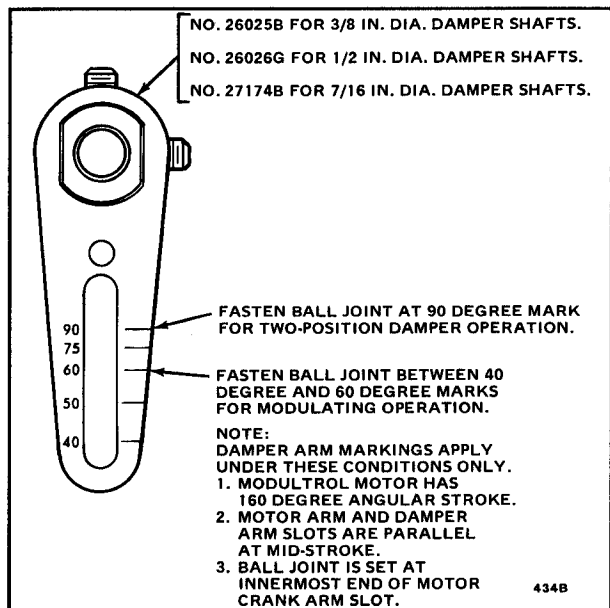

FIG. 11—POSITION BALL JOINT ON DAMPER CRANK ARM.
- Tighten the motor crank arm screw securely (see Fig. 11).
Place the crank arm assembly on the motor shaft. Tighten the motor crank arm bolt finger tight, as further adjustments will be required. See Fig. 11.
Install one ball joint at the innermost position of the motor crank arm, and another at the desired angular degrees-of-travel mark on the damper crank arm (see Fig. 11). For 90 degree motors, damper crank arm travel will be about half that indicated on the crank arm. On noncalibrated crank arms, approximate the positions shown in Fig. 12 and adjust later.